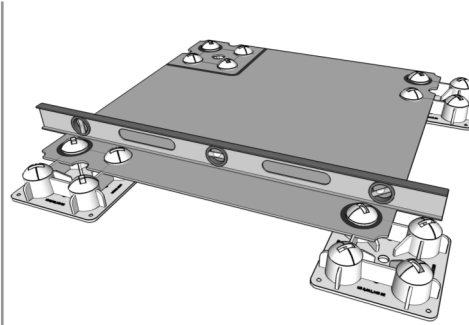
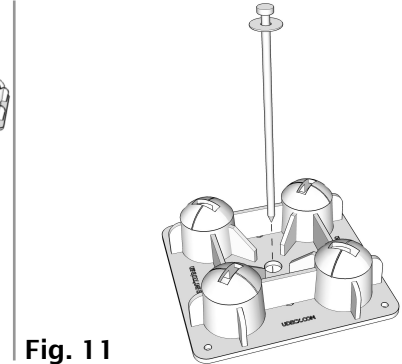

Fig. 10
Fig. 11
Level each additional Pier (A) to an adjacent Pier (A) (Fig. 10) and install Anchor Spikes (D). (Fig. 11)
**NOTE:** Remove the Pier Template after all Piers (A) have been leveled and anchored)